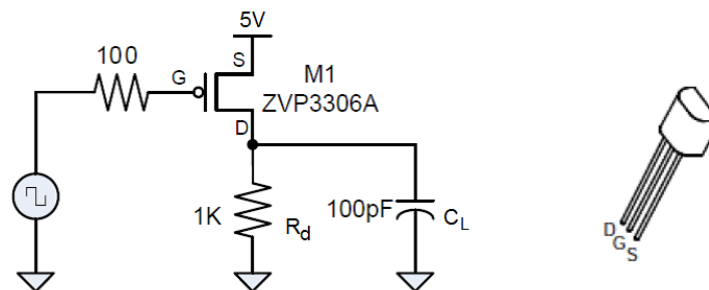

Figure 3. High-side switch inverter circuit (NOT gate) using a PMOS. Pay attention how the locations of S and D differ from NMOS in Fig. 2.
An inverter can also be built with a PMOS transistor, as shown in Figure 3. This is also called a high-side switch, since the switching element is on the high side of the voltage rails.
Question 3. Show the charging and discharge path for the PMOS inverter circuit shown in Fig. 3. Which transient time is shorter, switching from 0 V to 5 V and from 5 V to 0 V? Explain.
8. Construct the PMOS inverter/high-side switch shown in Fig. 3. Repeat the measurements as were done in step 4-6, as appropriate for the PMOS high-side switch topology. Analyze the results and compare them with the NMOS inverter. Only show the traces around the rising and falling edges.